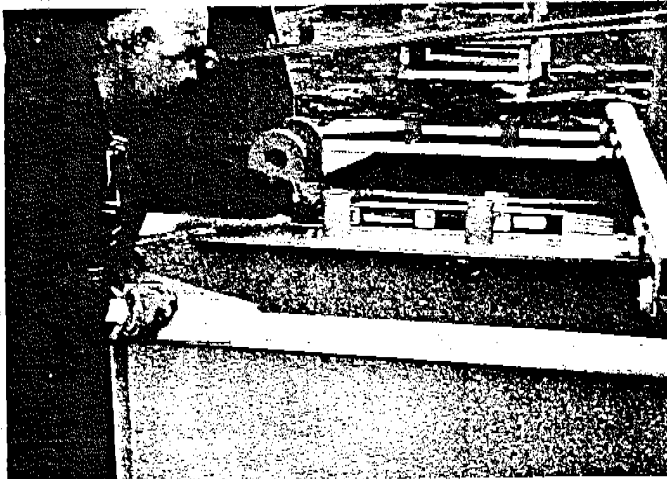
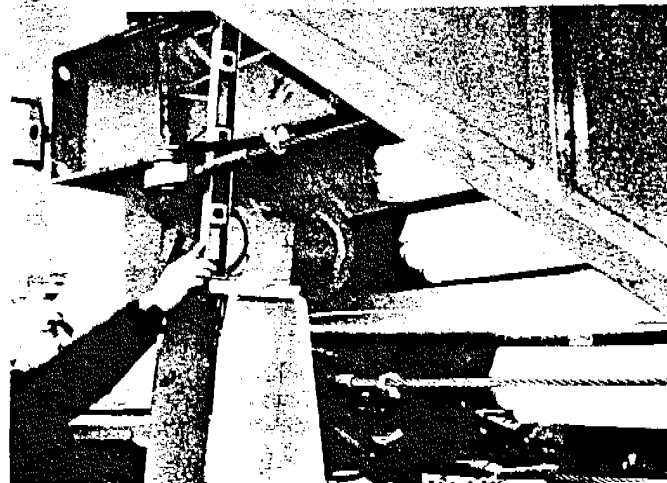

Fig. 4
Fig. 5
- Utilizing the four landing gears, level the frame fore and aft (Fig. 4), and at the tower pivot shaft. (Fig. 5)